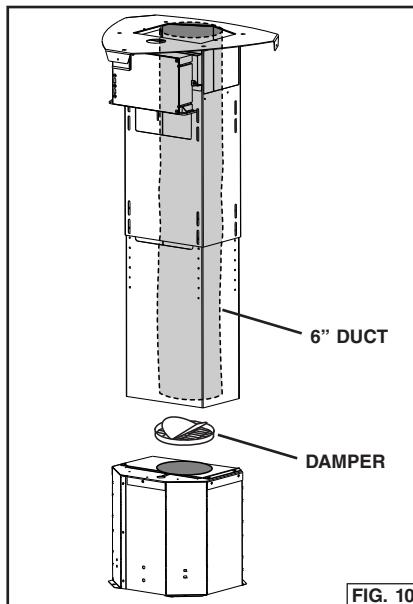

FIG. 10
3. If the unit is ducted, install the damper on top of the blower with the flaps swing up. Attach the ducting at the required length to the blower and seal with duct tape. Fig. 10. Skip to step 5.